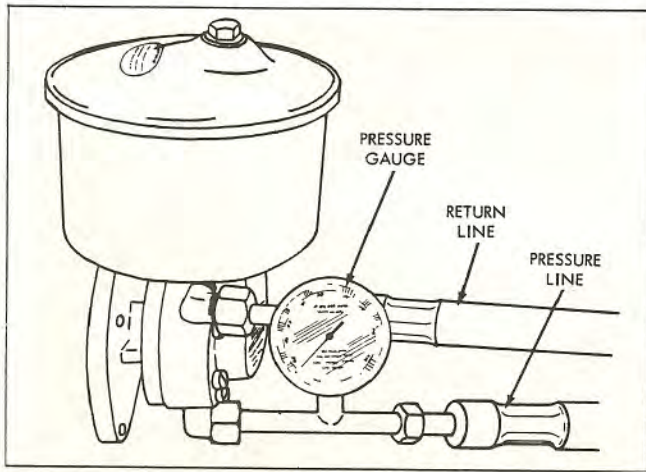

Fig. 4 - Diagram Illustration of Installed Pressure Gauge
1. Install a pressure gauge in series with the pump pressure line, as shown in Fig. 4.